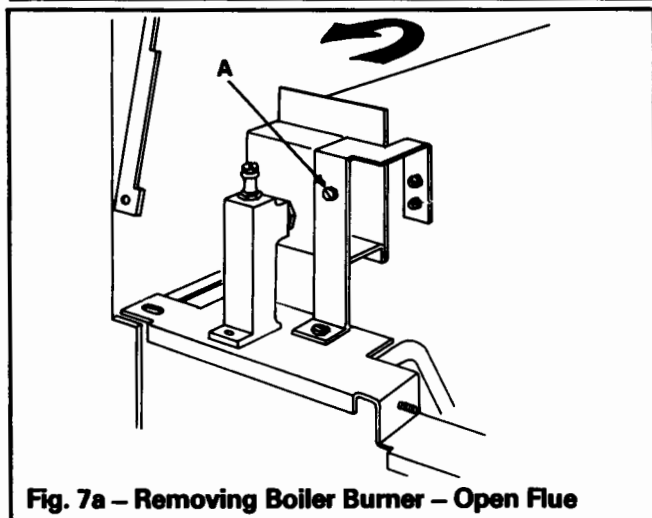
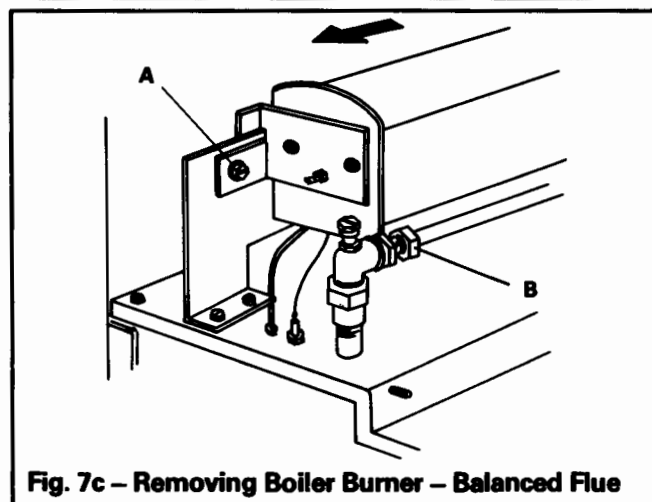
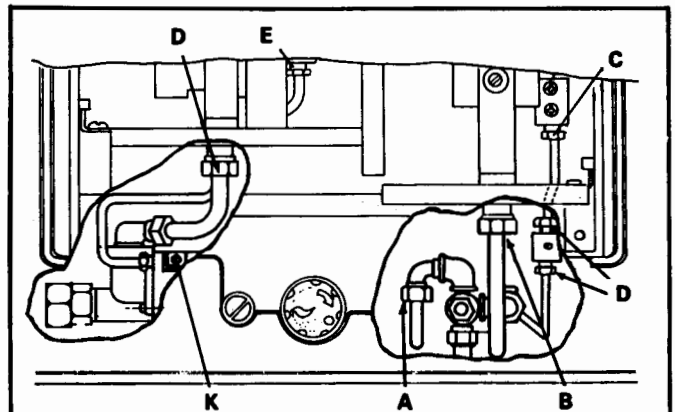
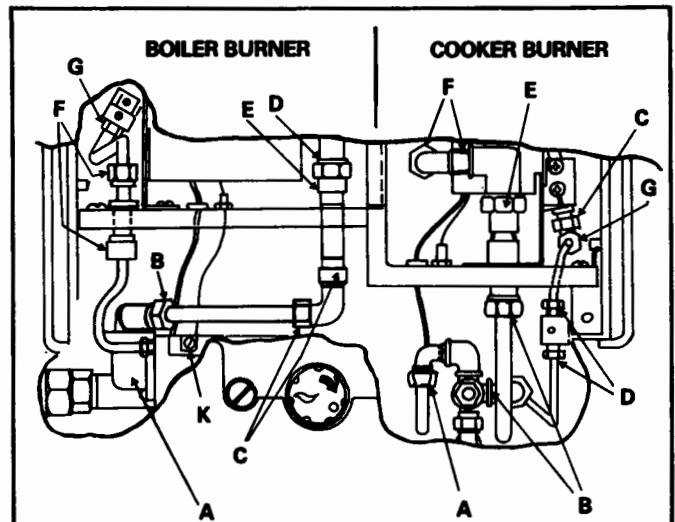

Fig. 7a - Removing Boiler Burner - Open Flue
Fig. 7c - Removing Boiler Burner - Balanced Flue
Fig. 9 – Gas Controls Installations – Open Flue
Fig. 9a – Gas Controls Installations – Balanced Flue
- c(i) Remove one screw **A** securing boiler pilot burner support bracket to boiler main burner. See Fig. 7a. Remove boiler main burner from combustion chamber.
- h. Remove boiler burner: Remove one hexagonal head screw and washer **A** securing burner to pilot support bracket, draw burner forward and remove from combustion chamber. See Fig. 7c.
- i. Disconnect 1/4in BSP union **B** to boiler burner feed pipe and remove pipe. See Fig. 7c.
NOTE: SOME AIR MAY BE PRESENT IN PILOT SUPPLY TUBE. FIRST REMOVE COMBUSTION CHAMBER DIVIDER PLATE **L (OPEN FLUE) OR **P** (BALANCED FLUE) THEN PURGE BY SLACKENING OFF PILOT BURNER TUBE NUT **C** (FIG. 9 OR 9A) AT PILOT BURNER AND THEN RETIGHTEN**
- d. Turn the cooker control knob **D** from **LOW** to No. 9 and test for gas soundness at the following joints:- See appropriate Fig. 9 or 9a.
Open Flue – Fig. 9
Balanced Flue – Fig. 9a
(OPEN FLUE) OR **B (BALANCED FLUE), THEN REMOVE BOILER BURNER. SEE FIG. 7A (OPEN FLUE) OR FIG. 7C (BALANCED FLUE). PURGE BY SLACKENING OFF PILOT BURNER TUBE NUT, **E** (OPEN FLUE) OR **G** (BALANCED FLUE) AT PILOT BURNER AND THEN RETIGHTEN. SEE FIG. 9 (OPEN FLUE) OR FIG. 9A (BALANCED FLUE)**
- f. Continue to hold in the knob for at least 15 seconds after the pilot has lit so that when the knob is released, the pilot should remain alight. Check that the flame envelops the tip of the thermocouple. (Flame length approx 20mm (3/4in) if necessary it can be adjusted via the adjustment screw. See Fig. 9 (Open Flue) and 9a (Balanced Flue) on the boiler gas control valve (turn anti-clockwise to increase the pilot flame).
- g. Turn the boiler thermostat knob **H** to maximum whereupon the main boiler burner should cross-light smoothly from the pilot burner. Test for gas soundness at the following points:- See appropriate Fig. 9 or 9a.